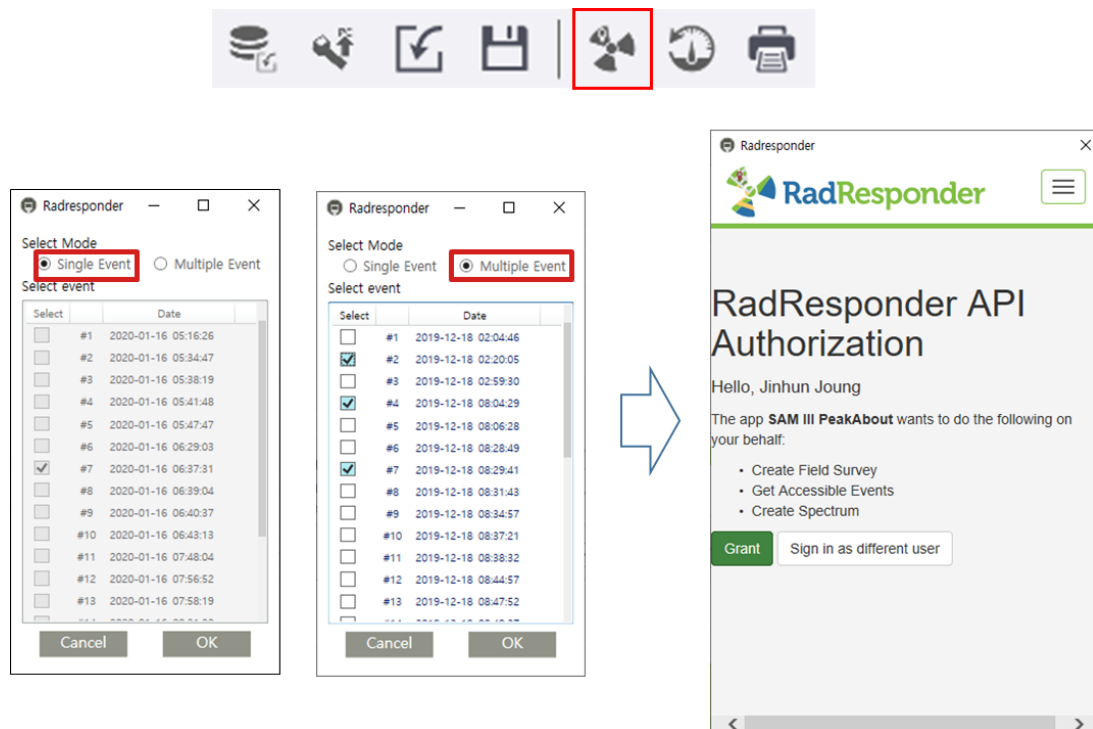

Figure 7.8.9. Send event to RadResponder example
2. Click the disk icon  in the lower left corner of the screen (Figure 7.8.9.) The RadResponder screen will appear.